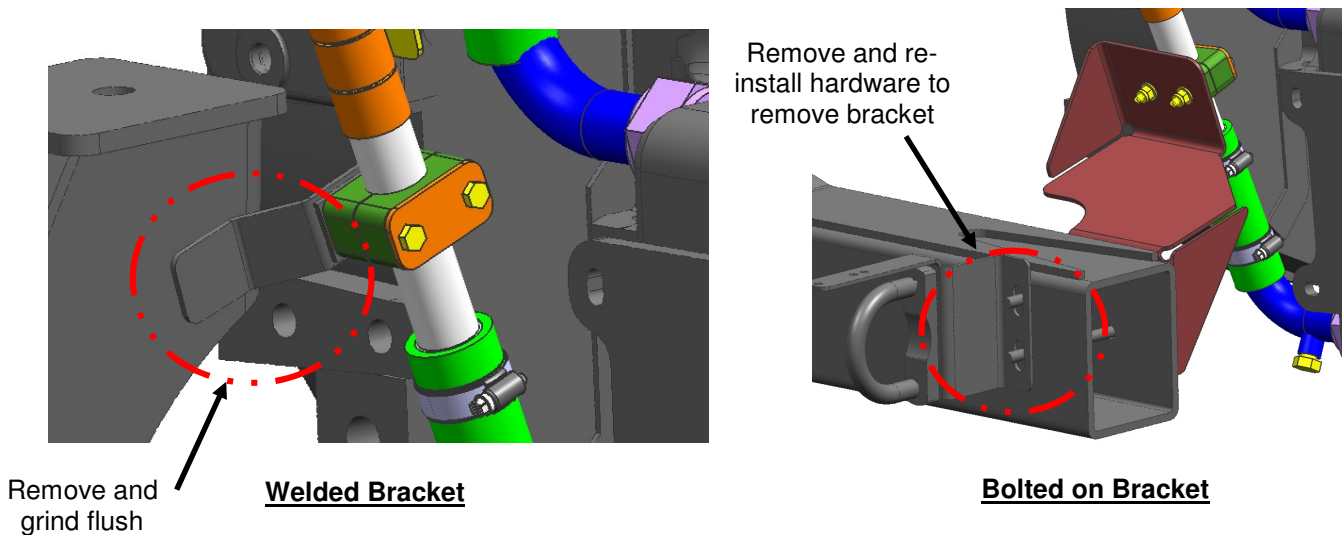

Figure 3: Booster Pump Supply Line Clamp Support Bracket Removal
- If the existing support bracket is welded to structure, grind off the bracket flush with frame and apply zinc primer to the exposed metal left by the grinding process to prevent corrosion, see Figure 3.
- If the existing support bracket is bolted to the frame, remove the bolts from the forward lower radiator tube mounting bracket, remove and discard existing coolant tube bracket and re-install the lower radiator tube mounting bracket bolts. Torque bolt (x2) to 40-70 in*lbs dry, see Figure 3.